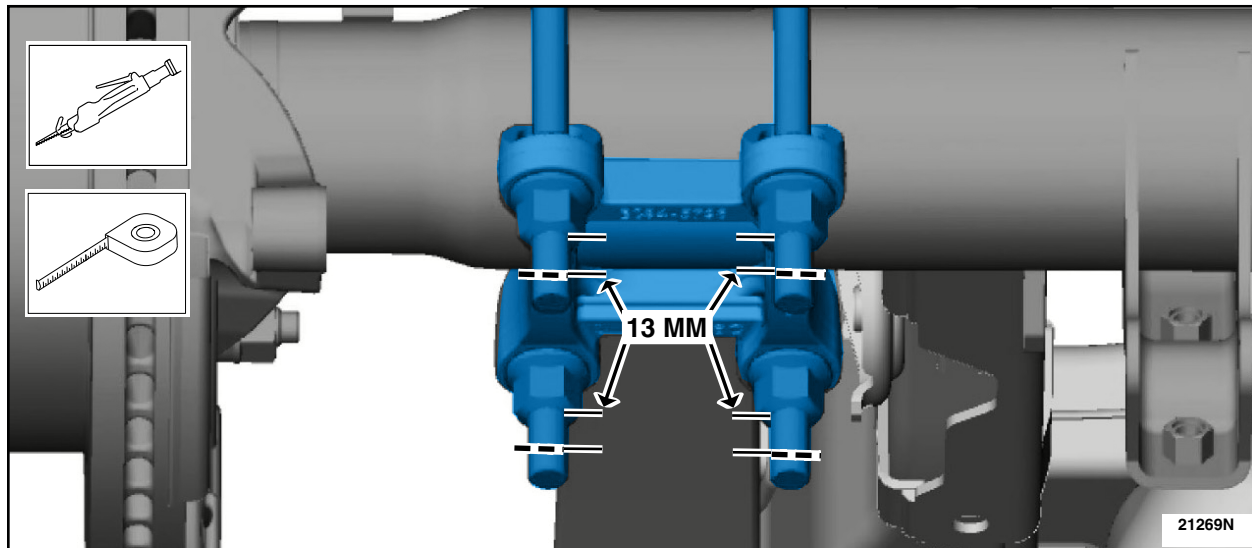

FIGURE 12
21. After torquing the U-bolts, measure 13 mm (0.51 in) from the top of the U-bolt nut towards the end of the U-bolt and cut the U-bolt. Make sure to remove any burrs, debris or sharp edges from the U-bolt after cutting. See Figure 12.